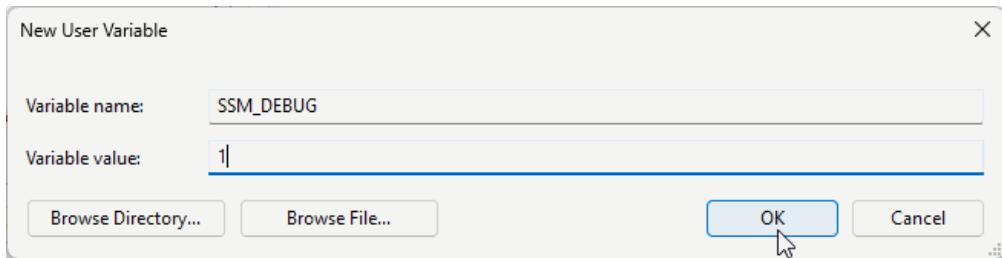

Fig. 2.3: Creation of *SSM_DEBUG* environmental variable on Windows *Control Panel*.
- Creating a *SSM_DEBUG* environment variable and assign *1* as value (e.g., Fig. 2.3).